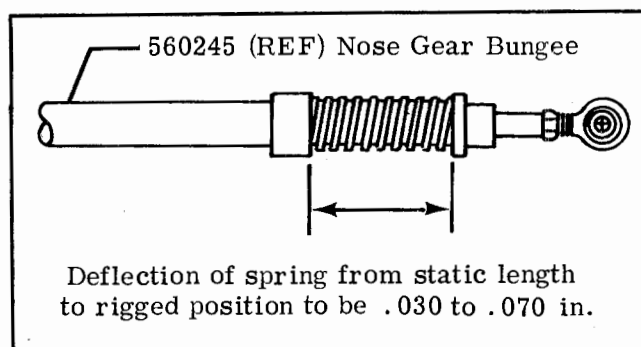

Figure 5-7. NOSE GEAR BUNGEE SPRING
12. Check length of nose gear bungee springs in gear-extended position (See Fig. 5-7). Nose gear bungee spring deflection from zero load condition (Step 10) must be .030 to .070 in. for each bungee (for J model only). Recheck main gear preload torque value. If nose gear bungee spring deflection and/or main gear preload torque is not within prescribed limits, adjust retraction tube rod ends in increments of 1/2 turn as required. Use manual extension during readjustment, and stop extension just as gear-down light comes on.
(4) Check for retraction truss movement by pulling down on truss. If movement is detected, increase preload on retraction tubes.
(5) Adjust eccentric bushings (J), Fig. 5-7, as required to obtain the proper gear-up travel and gear door rigging.
3. To increase or decrease nose gear-up travel in wheelwell, adjust eccentrics on trunion bearings (J), Fig. 5-7 as required.